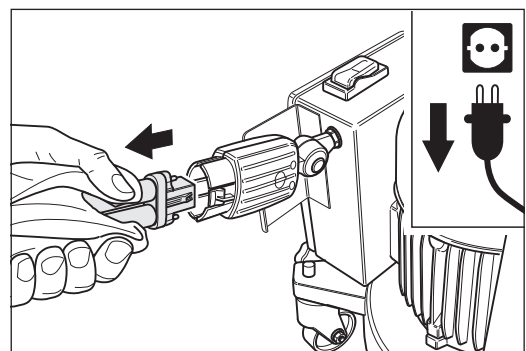

Fig. 82 Pull the defective fluorescent tube out of the fixture **carefully**.
- 5 Wrap a cloth or similar item around the fluorescent tube and then pull the fluorescent tube of the fixture. If appropriate, move the fluorescent tube back and forth carefully. **Do not break the fluorescent tube.** You could become injured by broken pieces of glass or you could also damage the floor (Fig. 82).